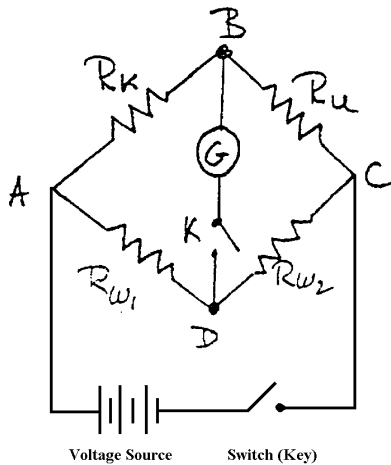
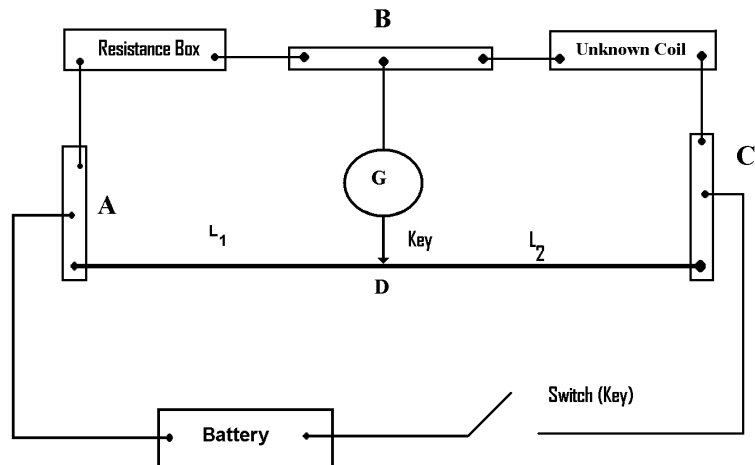

Fig. 1. Circuit Diagram
Fig. 2. Schematic Diagram
A Wheatstone bridge (see schematic in Figure 1) can be used to accurately determine an object's electrical resistance. If the resistances of  $R_{W1}$  and  $R_{W2}$  are known and  $R_K$  is known and variable, then a simple series of steps can determine the resistance  $R_U$ . When the current between points B and D is zero, the "bridge" is balanced, and the unknown resistance is given by
1. Observe the circuit diagram of a Wheatstone bridge (Figure 1) and the actual schematic diagram of the laboratory slide-wire Wheatstone bridge (Figure 2) below. Note the corresponding points (A, B, C and D) in each figure.